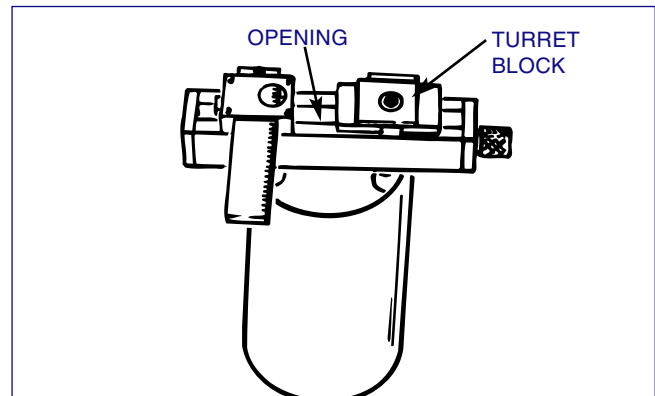

FIGURE 3-14, Setting Gage
7. Place Setting Gage in bore to be honed; then snug, making sure to center (*see Figure 3-14*).